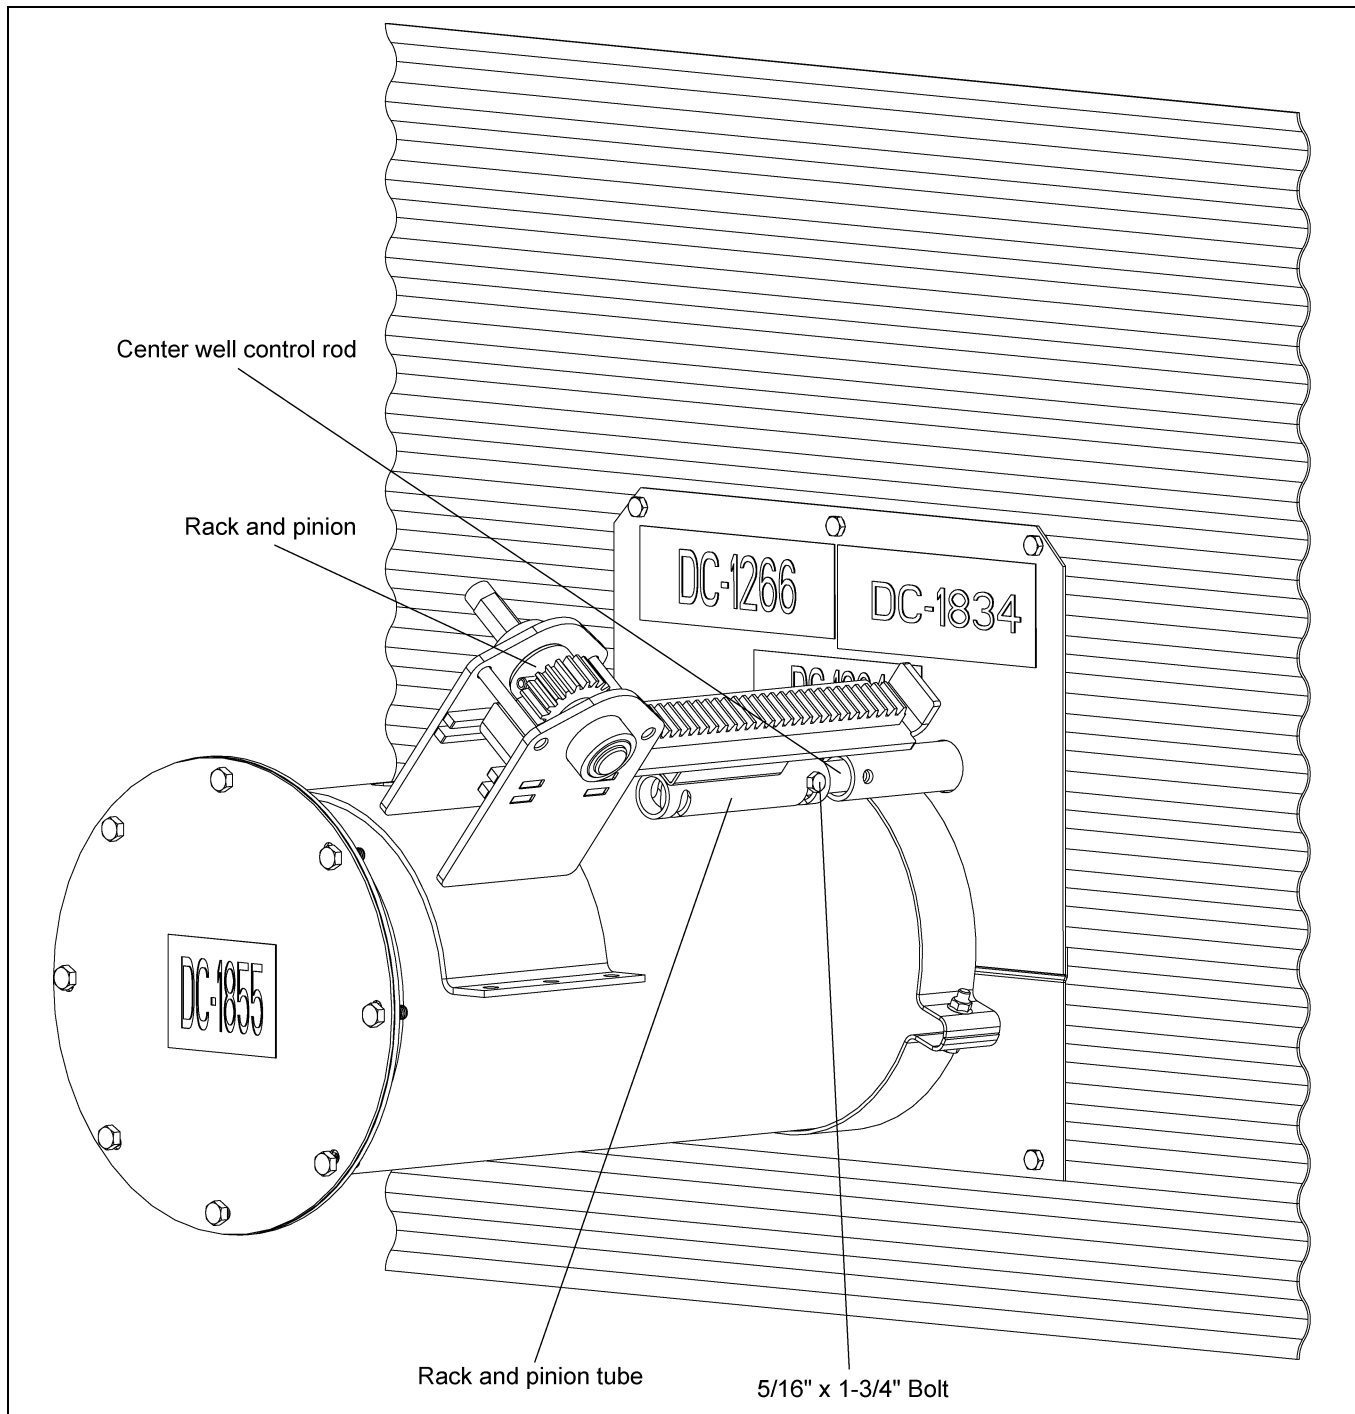

Figure 4P 8" and 10" Systems
2. Slip rack and pinion tube over center gate control rod and align holes, making sure rack and pinion is fully extended toward bin wall. *(See Figure 4P.)*
3. With rack and pinion resting on unload tube and tube holes aligned, insert one 5/16" x 1-3/4" bolt through the rack and pinion tube and center gate control rod. Fasten together with a nut. *(See Figure 4P.)*